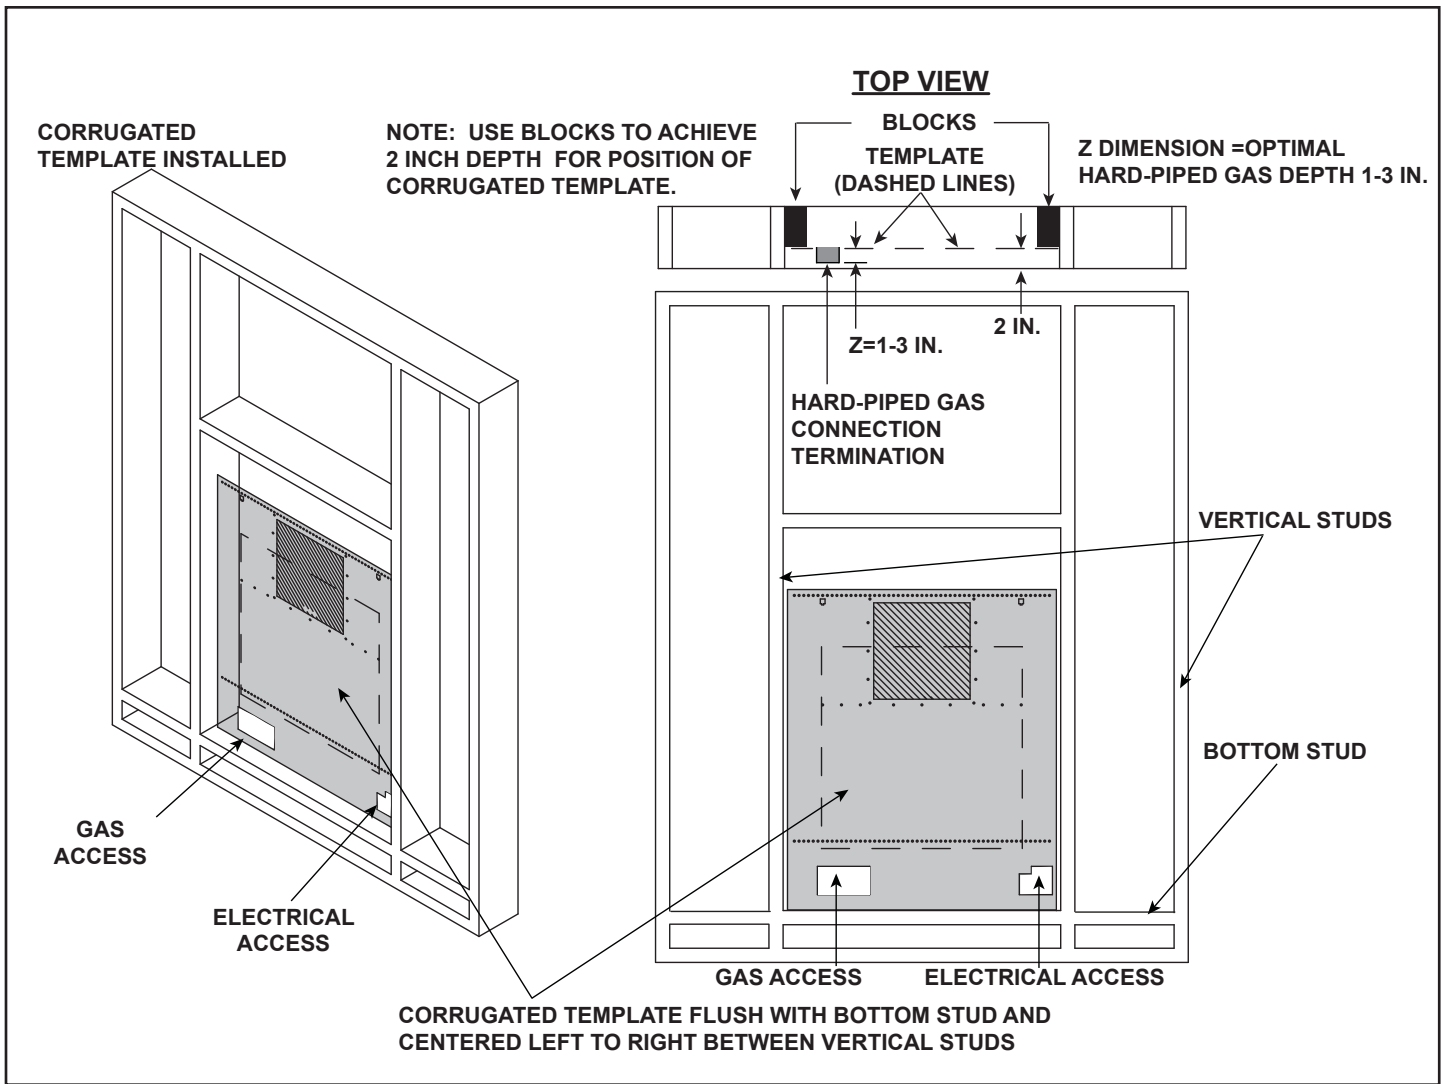

Figure 11.2 In-Wall with Corrugated Template
2. A Corrugated Template may be used to simplify the installation process. Contact your dealer or see Service Parts section in Owner's manual to order. Using the template for installations of the REVO will help when locating the gas and electrical connections for the appliance. Install the corrugated template as shown in Figure 11.2. Use blocks to position the corrugated template in regards to depth.
**Note:** Hard-piped gas connections must be terminated with a specific "Z" dimension depth. See references to "Z" dimension in Figure 11.2. Terminating the Hard-piped gas connection with the proper "Z" dimension will simplify the process of connecting the gas to the appliance.